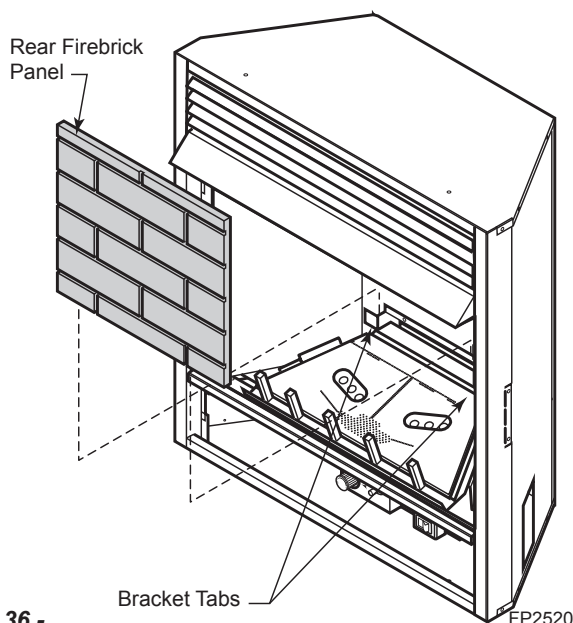

Figure 36 -
4. Place rear firebrick panel on back wall of firebox. Set bottom of panel behind the bracket tabs of the grate. *Figure 36*